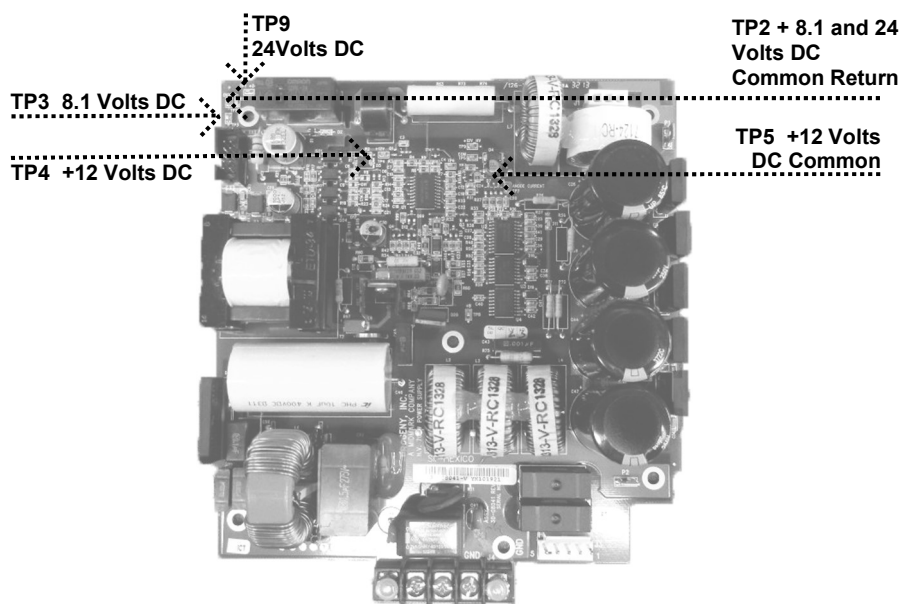

Figure 61
2. On the Power Supply Board, use TP2 as a common test point to check TP1 +24 volts DC and TP3 8.1 volts DC. Then use TP5 as the common return to check TP4 for the presence of +12 volts DC, as shown in Figure 61. Should any of these voltages not be present, replace the Power Supply Board. If these voltages are correct, next check voltages on the Logic Board.